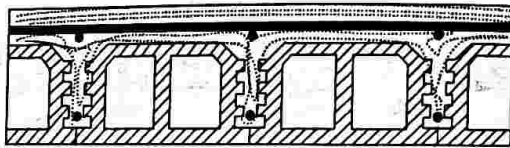

Fig. 3.19.4. Hollow tile and closed-ribbed floors.
- ii. This lower part does not take part in load bearing, and hence part of it can be replaced by hollow tiles so that weight of the slab is reduced. This results in a ribbed floor system, as shown in Fig. 3.19.4